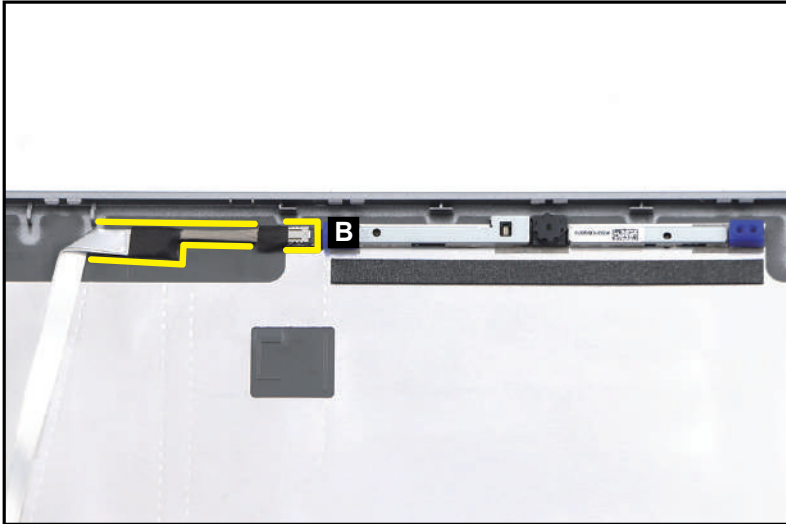

Figure 3-81. LCD Cable Removal
2. Continue to unroute the LCD cable from the cable guides on the upper side of the LCD cover as shown in Figure 3-81.
3. Disconnect the LCD cable from the camera module connector (B) (Figure 3-81). Then remove the LCD cable.